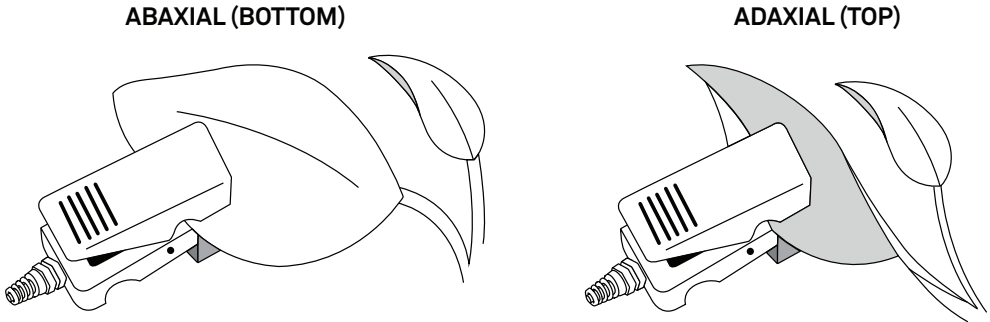

Figure 11 Leaf orientation during adaxial or abaxial conductance measurements
9. Orient the leaf appropriately for the measurement. The dessicant chamber must always be oriented down (Figure 11).